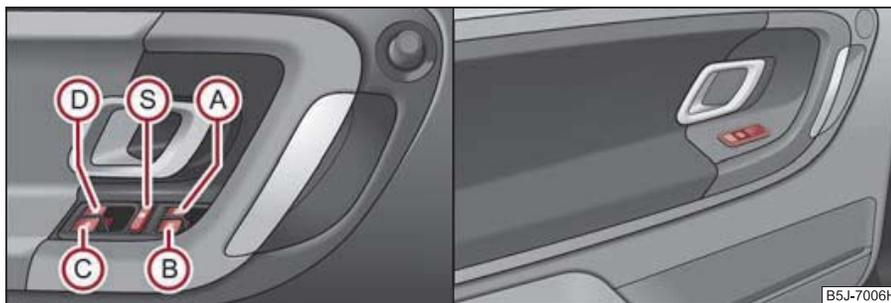

Fig. 32 Buttons on the driver's door/Buttons on the rear doors
The buttons for the individual windows are located in the operating part of the armrest of the driver's door ⇒ fig. 32, front passenger door and on the rear doors.
You can deactivate the buttons for power windows at rear doors by pressing the safety pushbutton (S) ⇒ fig. 32. The buttons for power windows at rear doors are activated again by pressing the safety pushbutton (S) again.
- It is recommended to deactivate the electrically operated power windows in the rear doors (safety pushbutton)  ⇒ page 41, fig. 32 when children are being transported on the rear seats.